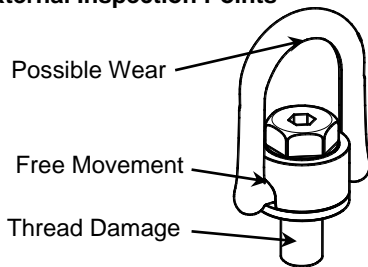

Figure 3
- Regularly inspect Anchor Point parts (Fig.3).